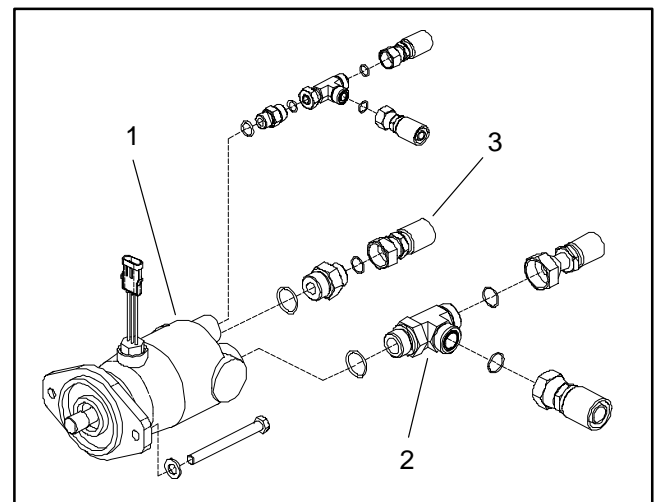

Figure 20
6. Disconnect hydraulic tee fitting and pressure hose from rear wheel motor that **is not** being tested (Fig. 20). Cap disconnected fitting and hose. Plug ports in wheel motor to prevent contamination.